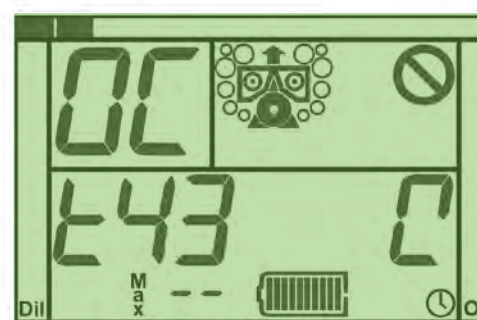

Figure 2-7.
Test 43 (mouthpiece OC position test) is automatically passed provided the mouthpiece was left in the OC position following the previous steps. If, for some reason, the mouthpiece is not in the OC position when Test 43 appears on the screen, the mouthpiece vibrator will activate along with the HUD and battery LEDs and audio alarm. The letters "OC" will appear in the upper-left corner of the LCD screen and, along with a low frequency tone and the "Open-Circuit" icon (diver with bubbles), will flash until the mouthpiece switch is placed in the OC position (Figure 2-7). The system allows the diver up to two minutes to make this switch. The "Open-Circuit" icon will continue to display on the LCD until Test 50, when the mouthpiece needs to be switched to the closed-circuit (CC) position.